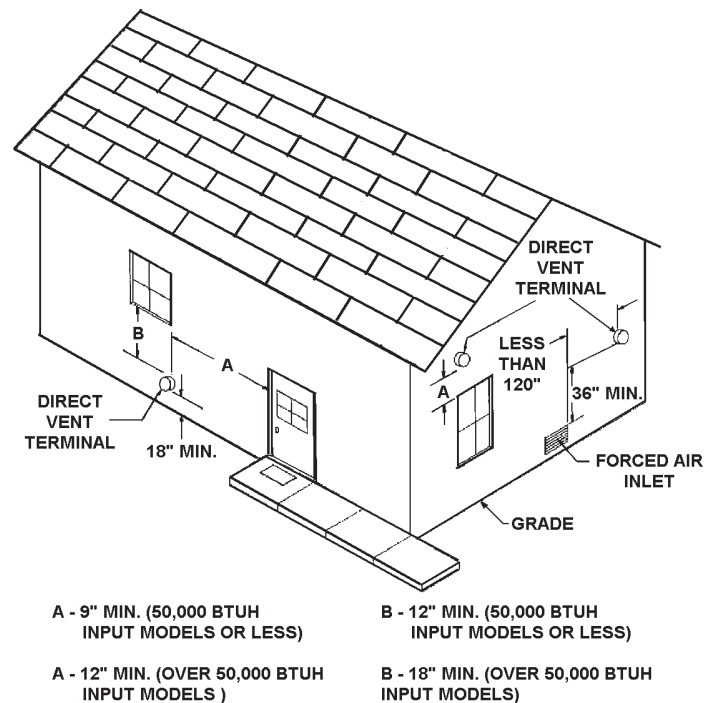

FIGURE 5
- The direct vent terminal shall terminate at least 3 feet above any forced air inlet located within 10 feet, see Figure 5.